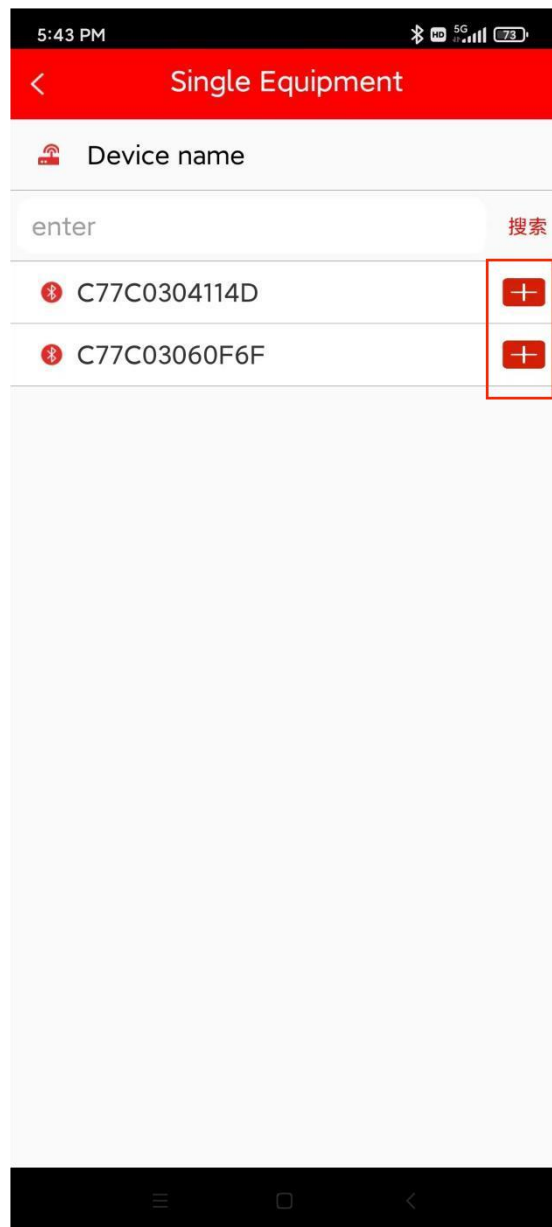

Figure 5: Bluetooth search to add the interface
2.2 After clicking "Single Cell", the operation interface is shown in Figure 5;